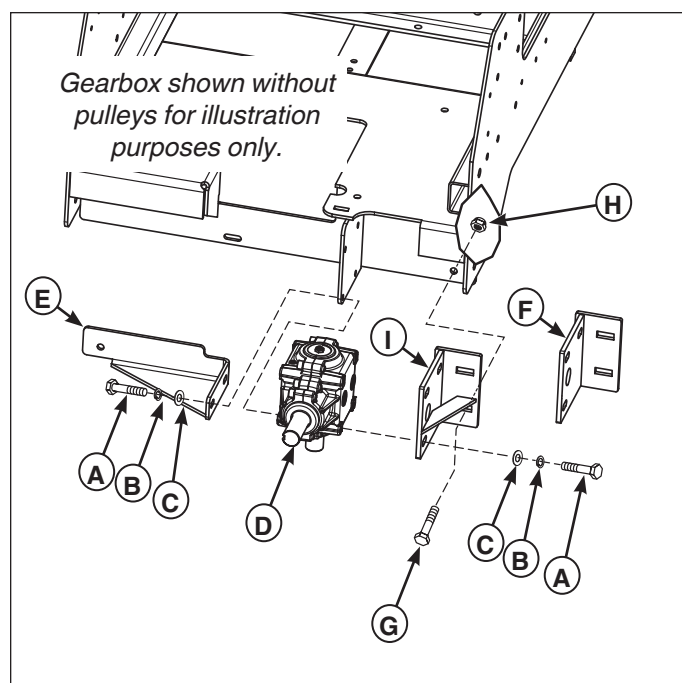

Figure 4. Installing the New Support Brackets
1. Loosen and remove the four (4) 5/16-18 X 1" bolts (**A**, **Figure 4**), 5/16 lock washers (**B**) and 5/16 flat washers (**C**) that secure the existing gearbox right angle bracket (**F**) to the gearbox.
2. Loosen and remove the two (2) 3/8 X 1" carriage bolts (**G**) and 3/8 nylon flange nuts (**H**) that secure the gearbox right angle bracket to the frame. Discard the two 3/8 nylon flange nuts.
3. Position the new gearbox right angle bracket (**I**) against the right side of the gearbox as shown in Figure 4. Snugly bolt the bracket to the gearbox using the four (4) 5/16-18 X 1" bolts, 5/16 lock washers and 5/16 flat washers removed in step # 1. The bracket should be able to slide forward and back.
4. Route two (2) 3/8 X 1" carriage bolts through the gearbox right angle bracket and the frame and loosely install two (2) new 3/8 nylon flange nuts.
5. Position the gearbox right angle bracket as far forward against the frame as possible and then tighten the two (2) 3/8 X 1" carriage bolts and 3/8 nylon flange nuts.
6. Tighten the four (4) 5/16-18 X 1" bolts, 5/16 lock washers and 5/16 flat washers that secure the bracket to the gearbox.
7. Remove the two (2) 5/16-18 X 1" bolts (**A**), 5/16 lock washers (**B**) and 5/16 flat washers (**C**) that bolt into the two bottom holes on the left side of the gearbox (**D**). Retain the lock washers and flat washers. Discard the 5/16-18 X 1" bolts.
8. Position the gearbox support bracket (**E**) against the left side of the gearbox as shown in Figure 4. Snugly bolt the bracket to the gearbox using two (2) 5/16-18 X 1-1/8" bolts, 5/16 lock washers and 5/16 flat washers.
4. Position the gearbox support bracket (**E, Figure 4**) as far forward against the frame as possible and then tighten the two (2) 5/16-18 X 1-1/8 bolts (**A**), 5/16 lock washers (**B**) and 5/16 flat washers (**C**) that bolt into the two bottom holes on the left side of the gearbox (**D**).